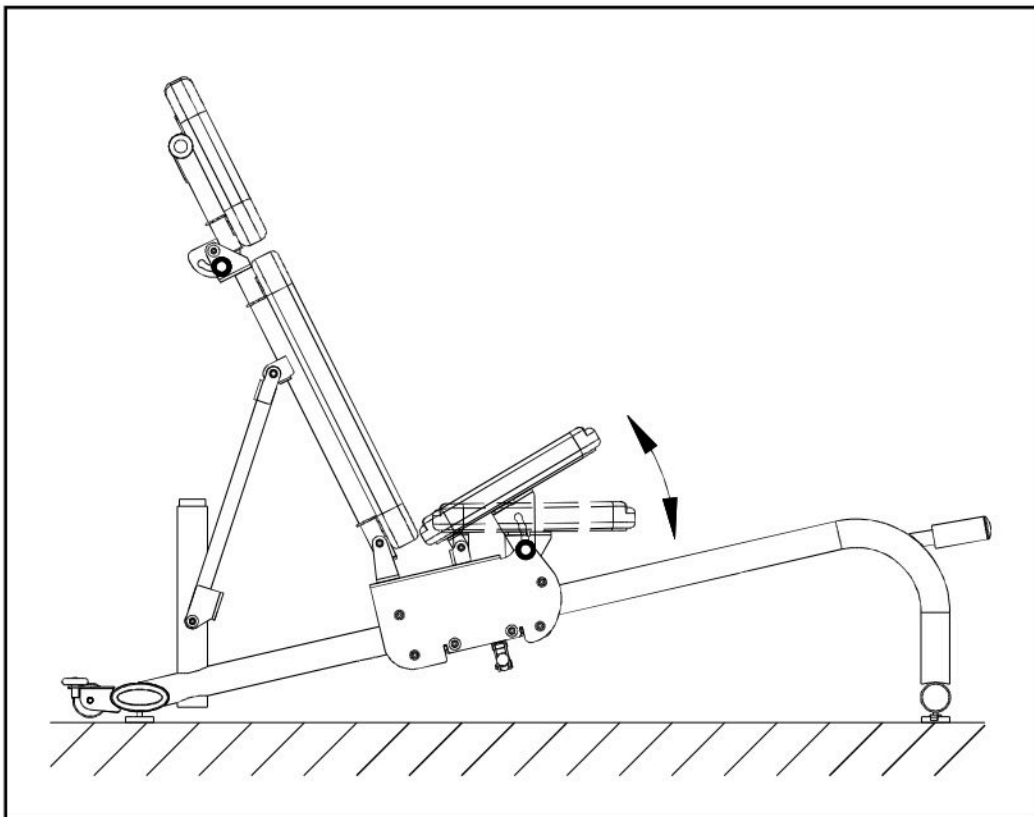

Fig.4
4. Adjust the seat bottom angle. See Fig.4.